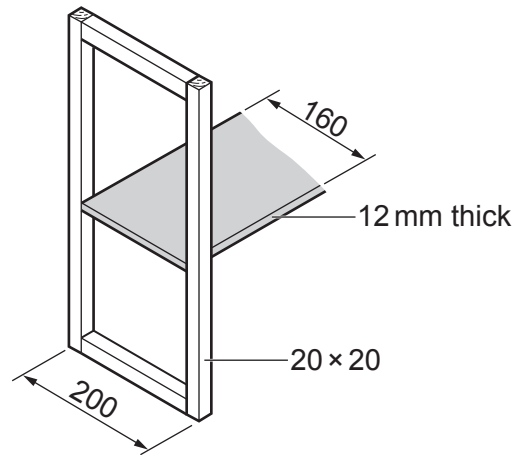

Fig. 13.4
- (e) Fig. 13.4 shows the end frame and moveable shelf. Use sketches and notes to show how the shelf could be supported at **three** different heights. The shelf must be prevented from sliding horizontally inside the end frame. Include details of the materials, constructions and fittings used.